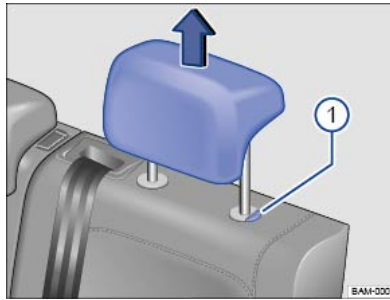

Fig. 91 Rear head restraint: removing.
- Pull the head restraint out fully while pressing the button ⇒ Fig. 91 ①.
- Press and hold the button ⇒ Fig. 91 ① and push down the head restraint.